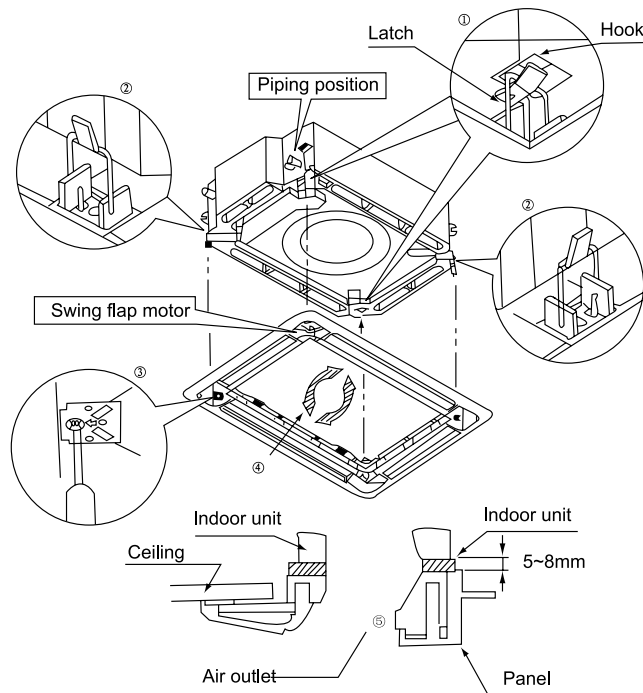

Fig.35
- (1). Place the panel at the unit, and latch the hooks beside and opposite the swing flap motor.
- (2). Latch other two hooks.
- (3). Tighten four hexagonal screws under the latches about 15mm.
- (4). Adjust the panel along the direction indicated by the arrow as shown in Fig.35.
- (5). Tighten the screws until the thickness of the sealing material between the panel and the indoor unit reduces to 5-8mm.